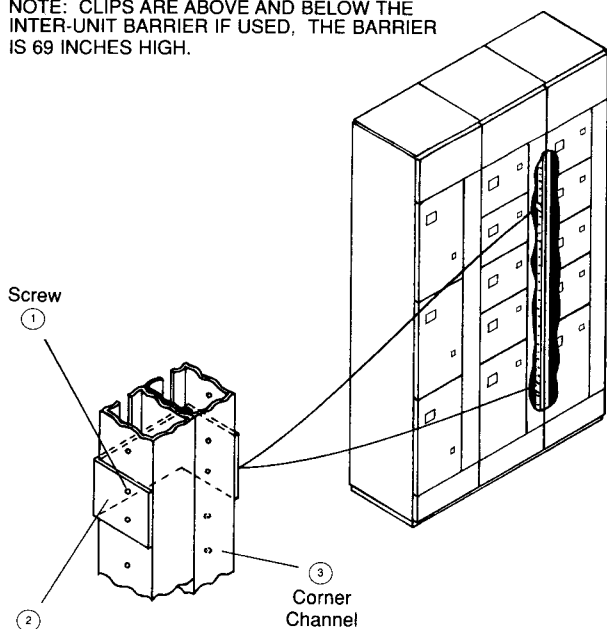

Figure 10A: Structural Joining of Shipping Sections
4. Connect the shipping sections together by positioning the structure joining clips over the adjacent corner posts above and below the interframe barrier as shown in **Figure 10A**. Secure each clip with four self tapping screws, two on each side.